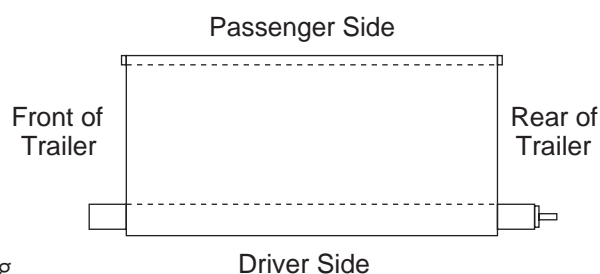

Figure 13
- 9) Create a Fixed tube (2) by assembling the two pieces of 1-1/8" galvanized tubing at the joint and welding them together.
- 10) Spread the tarp (3) out on a flat surface.
- 11) Lay the fixed tube (2) along the pocket in mesh tarp. Allow the fixed tube (2) to extend 1" beyond each end of the tarp (3) and cut the rod to length.
- 12) Insert the fixed tube (2) into the smaller pocket in the tarp (3).
- 13) **See Figure 13.** Slide the roll-up bar assembly (1) into the larger pocket in the tarp (3). Note the position of the long adapter shaft on the roll-up bar points toward the rear of the trailer.
- 15) While the tarp (3) is laying flat, wind the tarp (3) onto the roll-up bar (1) by rolling it toward the fixed tube (2).